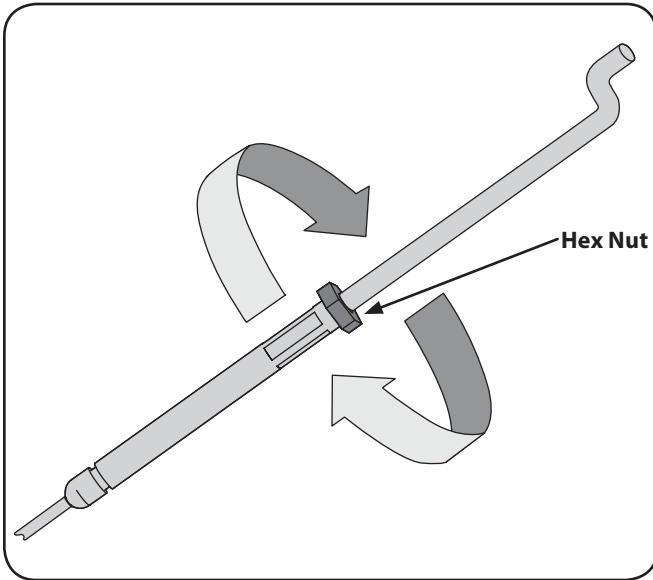

Figure 6-4
- Retighten the lock nut against the cable collar. See Fig. 6-4.